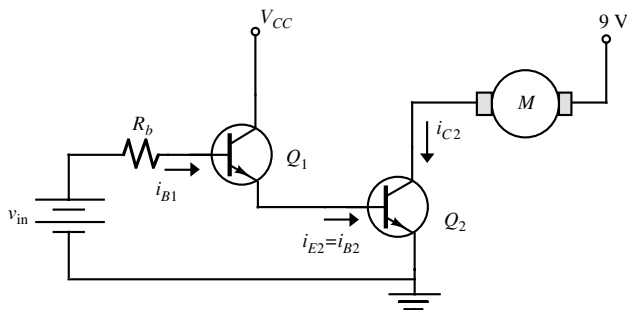

Figure P10.27
- 10.27** The circuit of Figure P10.27 is a variation of the motor driver circuit of Example 10.6. The external voltage v_{in} represents the analog output of a microcontroller, and ranges between zero and 5 V. Complete the design of the circuit by selecting the value of the base resistor, R_b , such that the motor will see the maximum design current when $v_{in} = 5$ V. Use the transistor β value and the design specifications for motor maximum and minimum current given in Example 10.6.